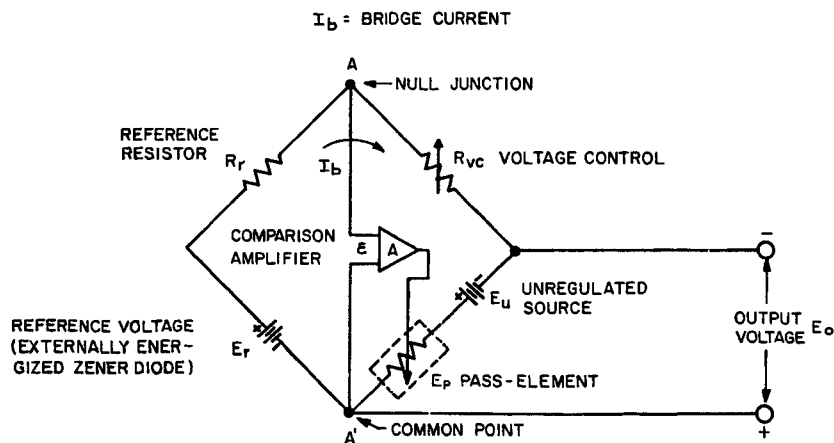

FIG. 3-3 KEPKO POWER SUPPLY CIRCUIT WITH COMPARISON BRIDGE (SIMPLIFIED)
- 3-9 GENERAL. A few general remarks may be in order to familiarize the user of this equipment with the terminology and basic equations pertaining to remote programming of Kepco Power Supplies. Electrically, the power supply, consists of the unregulated DC source (E_u), the pass element (E_p), the DC error amplifier (A) and a comparison circuit which resembles a four-arm electrical bridge. (Refer to FIG. 3-3). The elements of the bridge are arranged to produce a virtual zero at the amplifier input when the bridge circuit is at balance ($V_{AA'} = 0$). Any tendency for the output voltage to change in relation to the reference voltage (E_r) creates an error signal (e) which, by means of negative feedback and the amplifier, tends to correct the output voltage towards restoration of bridge balance.